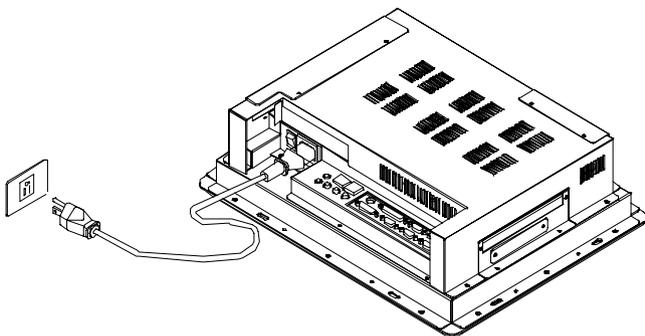

Figure 2-5: Connecting the power cord
1. Connect the female end of the power cord to the AC inlet of the panel computer. (See Fig. 2-5.)